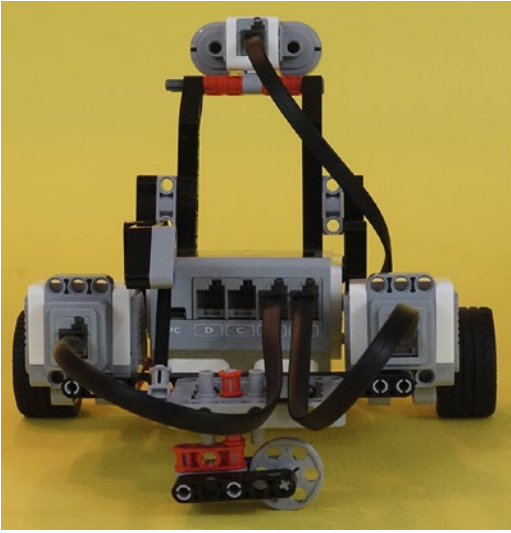

Figure 3-36. *The large motors are connected to ports A and B*
2. Looking at the back of the ExploroBot as shown in Figure 3-36, connect a cable from the left motor to port B.
3. Connect a cable from the right motor to port A, also shown in Figure 3-36.